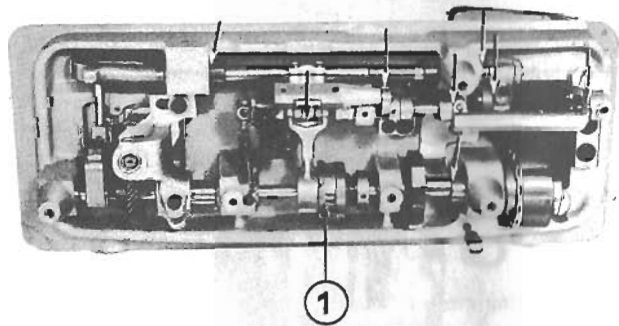
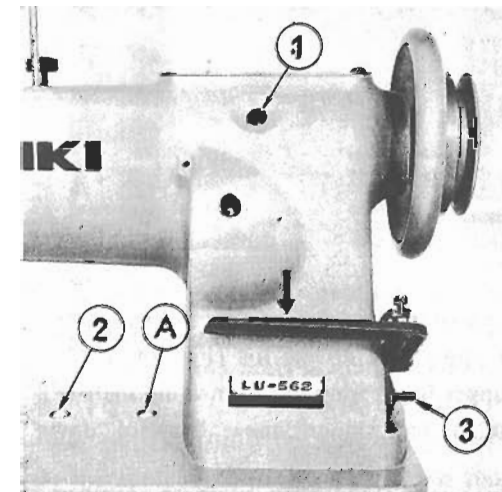
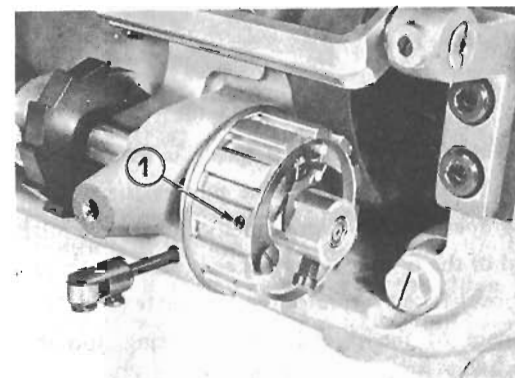
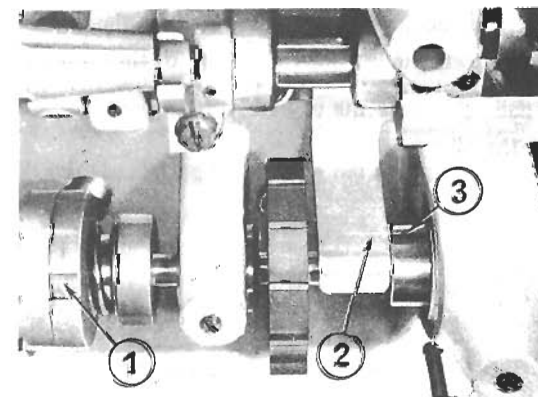

Fig. 5
Fig. 12
Fig. 15
Fig. 26
The graduation of the stitch length is marked on the feed graduation plate attached to the main shaft. (Fig. 12 ①).
To adjust the stitch length, rotate the hand wheel slowly as you keep on pressing the push-button (Fig. 12 ②) stop the bed until the tip of the push-button enter the groove (Fig. 5 ①) of the eccentric mechanism.
When it is entered, rotate the hand wheel either towards you or away from you as you keep pressing the push button until the desired stitch length indicating mark on the graduation plate appears on the hole of the arm (Fig. 12 1). When the desired stitch length indicating mark appears on the hole, release the push-button. But please note that the figure which appears on the hole of the arm (Fig. 12 1) means so many stitches per 25.4 mm (1").
For reverse sewing, push the reverse feed control lever downwards until it hits the stopper (Fig. 12 3). As long as this lever is kept down, the machine will do reverse sewing.
To set the safety clutch correctly, rotate the hand wheel strongly in the reverse rotational direction as you keep pushing the button (Fig. 12 4). To adjust the applying pressure of the safety clutch, release the timing belt and turn the adjusting screw (Fig. 15 1). If this screw is rotated to right, the applying pressure will increase and the clutch becomes difficult to be released, while if it's turned to left, the applying pressure becomes less and the clutch becomes easier to be released.
To adjust the correct position of the feed graduation disc (Fig. 12 1), at first loosen the set screws of the graduation disc. Then, adjust the stitch length to 3.17 mm (1/8" +) (Place a paper under the presser foot, rotate the hand wheel with your hand and after 11 stitchings, the overall length should become 31.7 mm (1-1/4"). Next, rotate the hand wheel while pressing the push button (Fig. 12 2) until the tip of the push button engages with the notch of the ratchet pawl on the feed rocker driving eccentric (Fig. 26 1) and when it is inserted, tighten the graduation disc to the main shaft so that the graduation scale of 8 comes out to the hole of the arm (Fig. 12 3).
When putting the belt around the lower sprocket wheel, rotate the hook driving shaft with your hand keeping the thread take-up lever in the highest position, and after matching the hook driving shaft timing indicator's arrow (Fig. 26 2 ) with the arrow of the hook driving shaft rear bushing (Fig. 26 3 ), put the belt around the lower sprocket wheel. Thus, the feed timing with respect to the needle bar becomes correct.